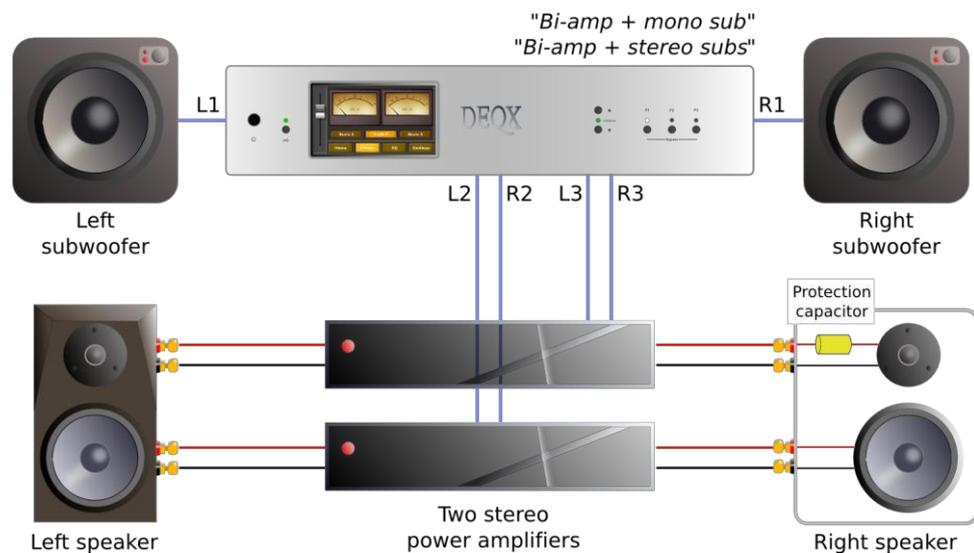
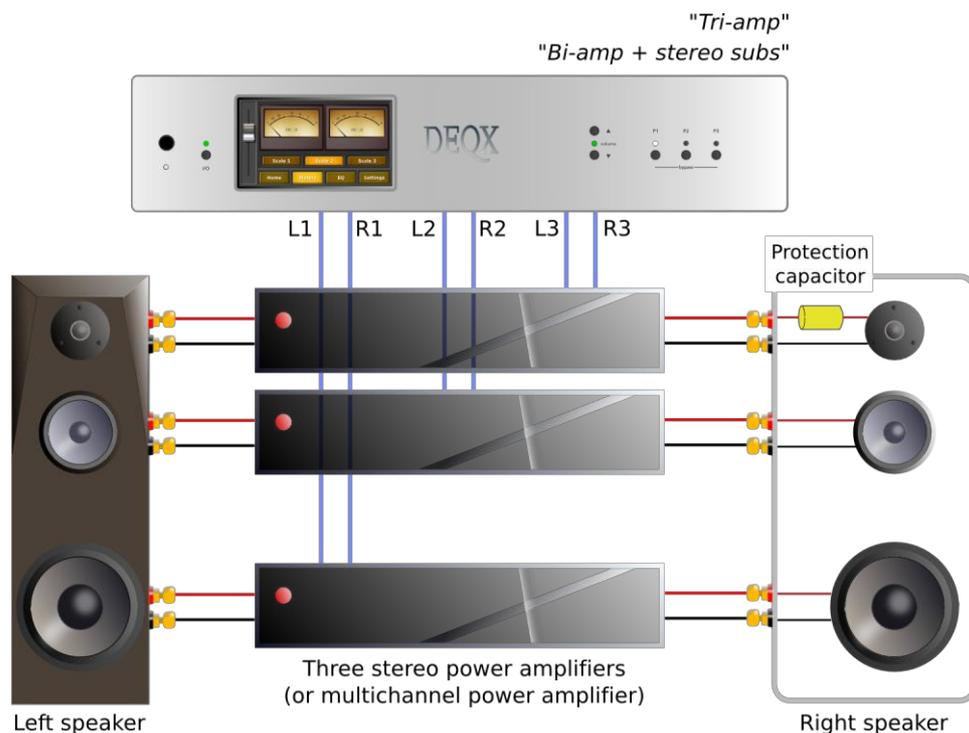

Figure 5. Active two-way speaker
Figure 6. Active three-way speaker
By removing the passive crossover network and instead using a DEQX to divide the frequency range “in front of” the amplifiers, an active speaker is realized, as illustrated in Figure 5 on the next page. Each amplifier is thus required to deliver only a portion of the full frequency range. The passive crossover is no longer present4, removing any possibility of non-linearities in the passive components and giving the amplifiers direct control over each individual driver. The DEQX adjusts the response of each driver in minute detail, reducing group delay and amplitude errors dramatically and providing accurate acoustic transitions between the drivers with steep *linear phase* filter slopes.
1. As indicated in Figure 5 and Figure 6, a protection capacitor (a high voltage film capacitor) in series with the tweeter is generally recommended. This will help protect it from DC offsets and turn-on and turn-off transients. If there is any question that the amplifier and upstream equipment is not perfectly behaved or that the tweeter is fragile, the capacitor is strongly recommended.
Figure 5 shows the physical connections for an active two-way speaker. If stereo subwoofers are used (as shown in the diagram), set the speaker configuration mode to “bi-amp with optional stereo subwoofers.”
Figure 6 shows the physical connections for an active three-way speaker. The DEQX can use two different speaker configuration modes:
In the case of a two-way speaker, the physical connections are as shown in Figure 5, but the tweeter and woofer each retain their own internal passive filter network. Calibration proceeds in much the same manner as for an active two-way, but the crossover frequency will need to be set at or somewhere near the crossover frequency defined by the passive crossover. The DEQX will compensate for the frequency and phase response of the passive crossover and still realize an ideal linear-phase crossover.
If using subwoofers with a two-way active speaker (Figure 5 on page 107), you will need to measure and calibrate the subwoofers as described in Chapter 8, and configure limit filters as described on pages 77 and 78.